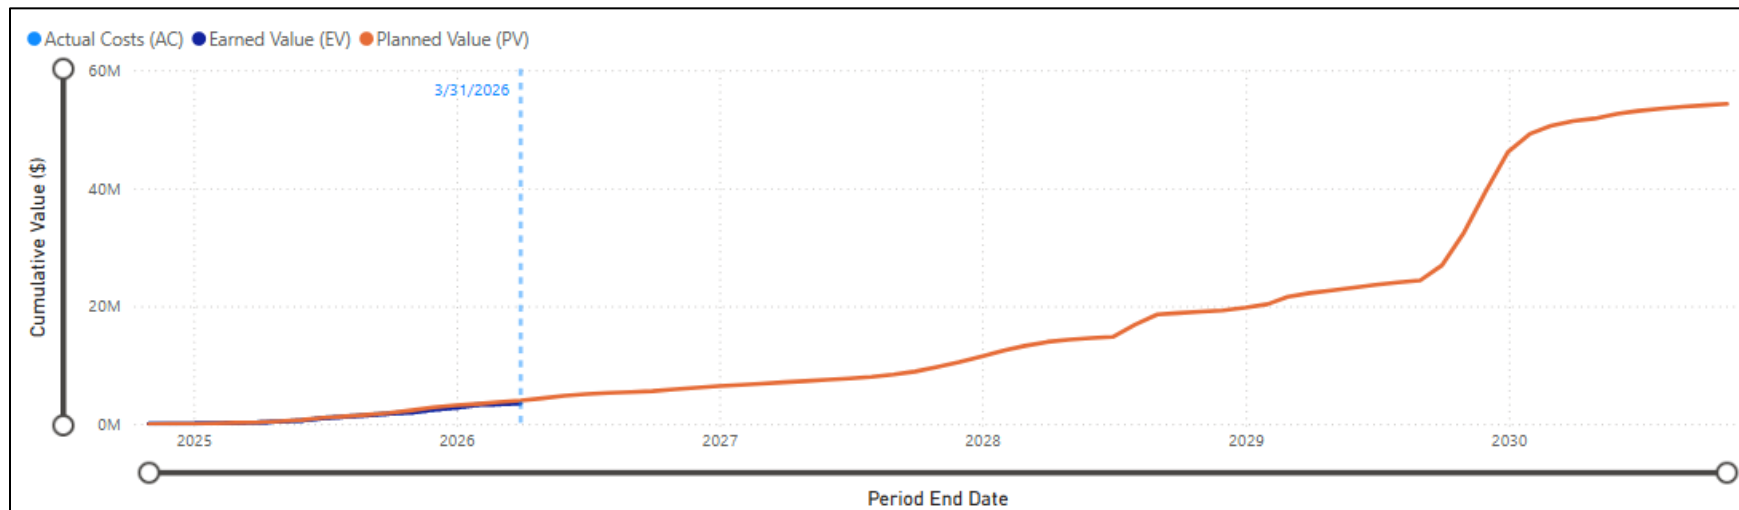

Figure 37: The PMBI S-Curve
- **Sort any column** by clicking its header. The small arrow indicator on the **PV to Date** column shown in figure 37 indicates it is currently sorted. Clicking again reverses the sort order. This is useful for quickly ranking tasks by cost, schedule performance, or completion percentage.